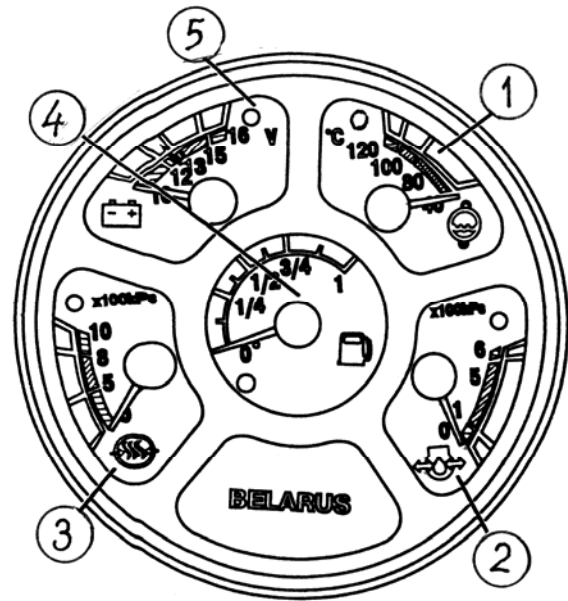

Fig. 9.
#### 2. The temperature indicator (1), Fig. 9, operated jointly with the thermistor-type temperature sensor BK1 (ДУТЖ-02М, resistance range: 243...22.5 Ω).